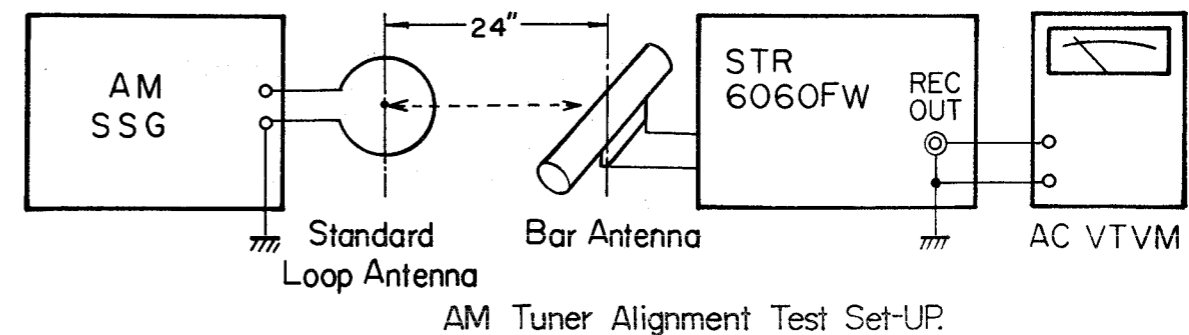

Fig. 3-11
- (1) Remove the shield cover from IF and Discriminator section.
- (2) With the equipment connected as shown in Fig. 3-11, follow procedures as given in table 2.